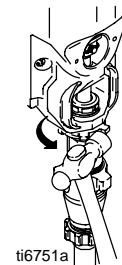

Fig. 9
6. Fig. 9. Screw jam nut (12) up onto pump until nut stops. Tighten jam nut by hand, then tap 1/8 to 1/4 turn with a 20 oz (maximum) hammer to approximately 75 +/- 5 ft-lb (102 N-m).